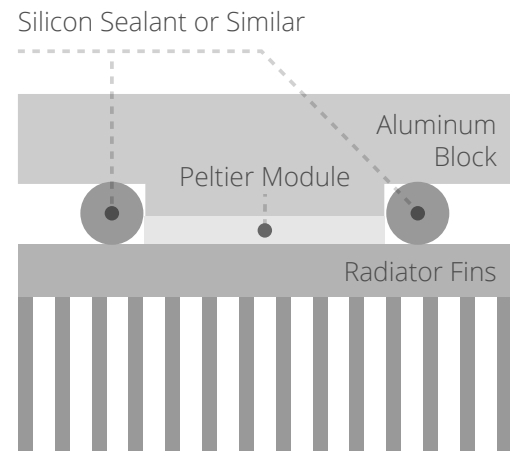

FIGURE 7. HUMIDITY PROTECTION FOR THE PELTIER MODULE PERIMETER
11) As a protection against humidity, seal the perimeter of the Peltier Module with a silicon sealant or similar and allow to dry for the requisite time. **[figure 7]**